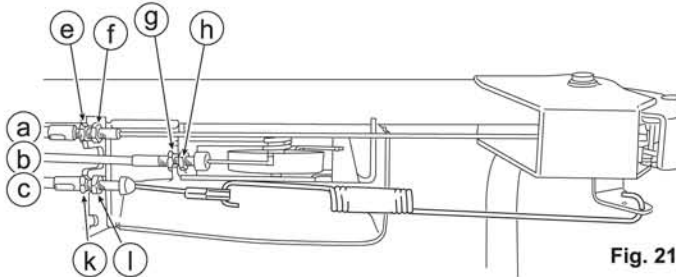

Fig. 21
8.5.1 Throttle Lever (See Figs. 21 and 22)
4. Start the engine and confirm that the engine stops completely when Throttle lever (E) is set at "🛑".
8.5.2 Blade Lever (See Figs. 21 and 23)
3. Confirm that the blade stops completely when Blade lever (C) is released.
8.5.3 Drive Clutch Lever (See Figs. 21 and 24)